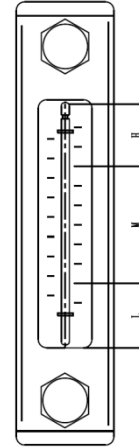

Figure 11-5 Oil Level Sight Gauge
- Examine the oil level on the hydraulic oil tank, i.e., level shall fall within the M range shown as Figure 11-5, and in the case of level lower than L, it is necessary to add hydraulic oil.